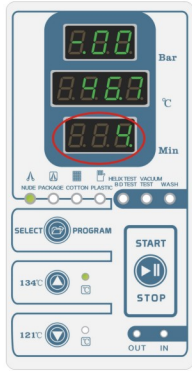

Fig. 5.4-2
(2) **First times Pre-vacuum stage:** when the temperature over than 40°C, the sterilizer will start to do vacuum and the control system will open the vacuum pump solenoid valve (Ev4). time display window show “4” , the “pressure display window” show “-.00” , the “temperature display window” show “temperature in chamber” . “Time display window show 4,3,2,1” means vacuum working time countdown, if within 4 minutes, the vacuum value of less than Pv (factory default setting Pv=-0.80bar) value, there will be alarm E12 or the vacuum value reaches Pv value in advance, sterilization program into heating stage in advance. (Fig.5.4-2)
(5) **Second times Pre-vacuum stage:** when the pressure down to 0.0bar, the sterilizer will start to do vacuum and the control system will open the vacuum pump solenoid valve(Ev4). time display window show “4” , the “pressure display window” show “-.00” bar, the “temperature display window” show “temperature in chamber” . “Time display window show 4,3,2,1” means vacuum working time countdown, if within 4 minutes, the vacuum value reaches -0.7bar value in advance, sterilization program into heating stage in advance.(Fig.5.4-2)
(8) **third times Pre-vacuum stage:** when the pressure down to 0.00bar, the sterilizer will start to do vacuum and the control system will open the vacuum pump solenoid valve(Ev4). time display window show “4” , the “pressure display window” show “-.00” , the “temperature display window” show “temperature in chamber” . “Time display window show 4,3,2,1” means vacuum working time countdown, if within 4 minutes, the vacuum value reaches -0.70bar value in advance, sterilization program into heating stage in advance.(Fig.5.4-2)